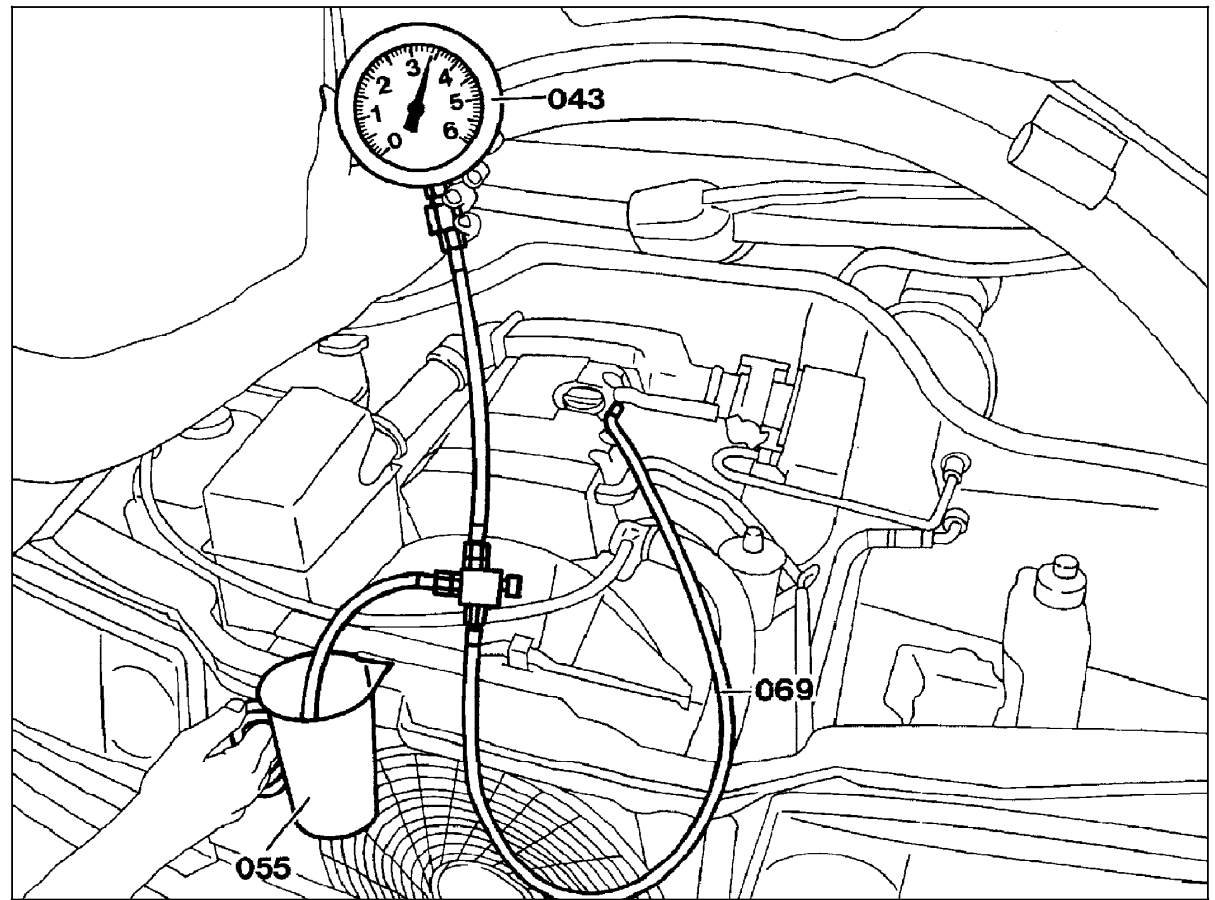

Figure 1
3. Connect pressure gauge to test connection (see Figure 1),
4. After completing test, using measurement glass (055), release fuel pressure and allow residual fuel to drain into glass (see Figure 1).